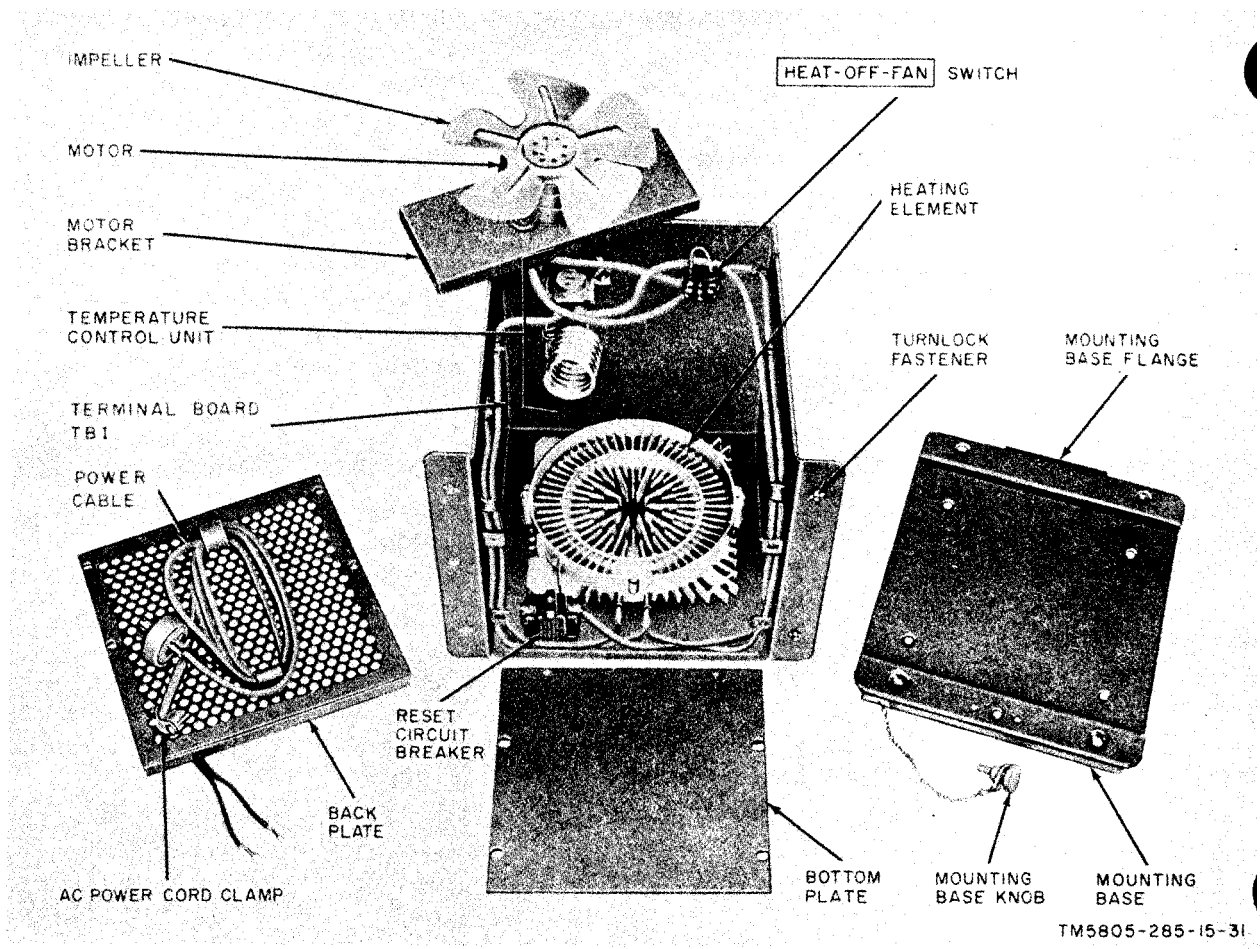

Figure 31. Electric heater, partially disassembled, rear view.
(fig. 31 and 32)
- (2) Pull the power cord out of the clamp in the backplate (fig. 31).
- (3) Insert a new power cord through the clamp in the backplate.
- (4) Connect the leads to terminal board TB1.